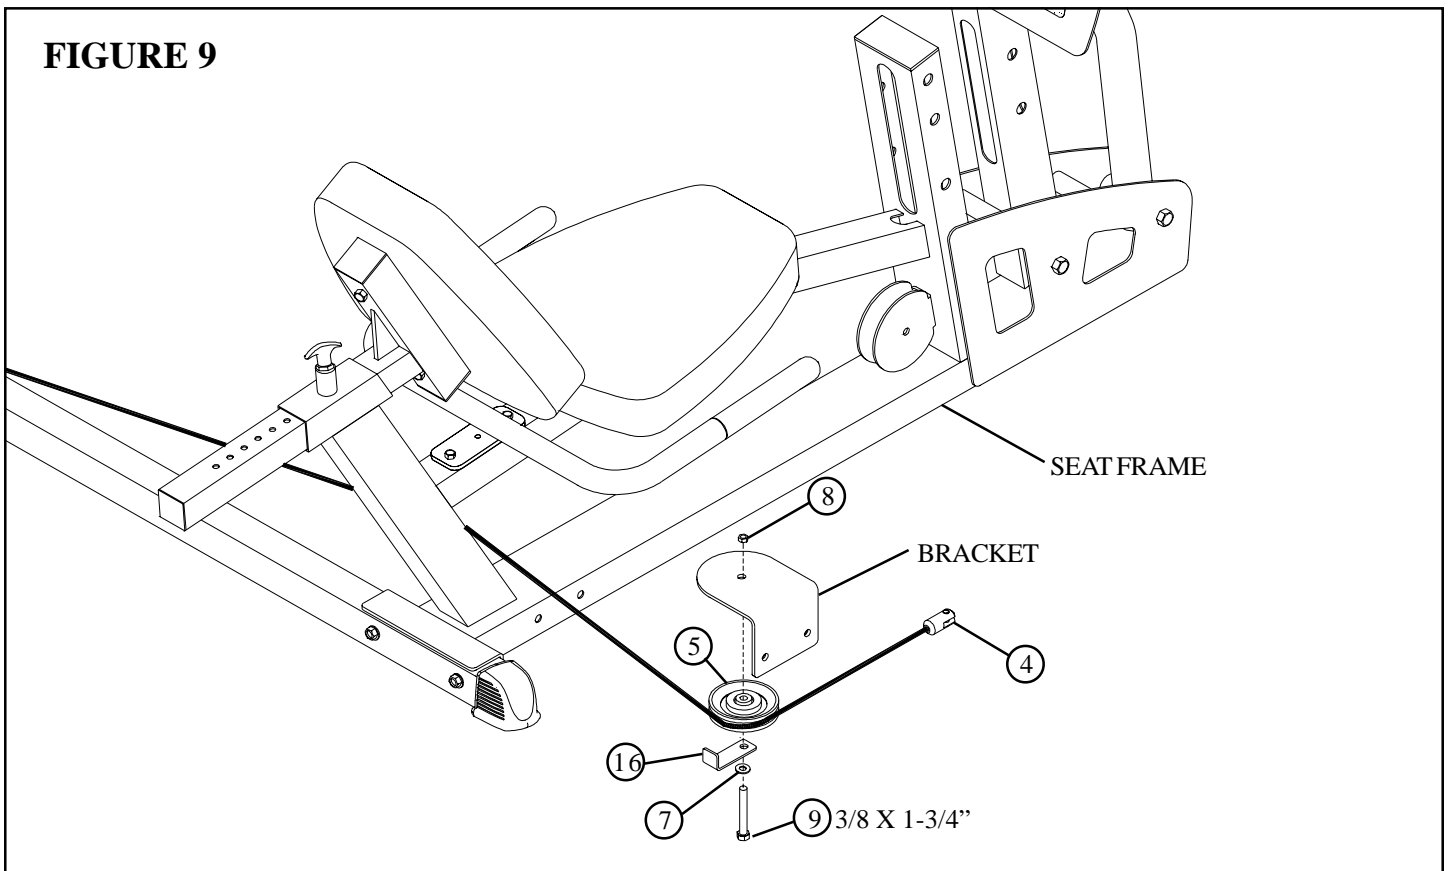

FIGURE 9
- Carefully route the LEG PRESS CABLE (4) around one 3-1/2" PULLEY (5) and **SECURELY** assemble the 3-1/2" PULLEY (5) to the BRACKET (from the 100 LEG PRESS) using one 3/8 X 1-3/4" BOLT (9), one 3/8" WASHER (7), one CABLE CLIP (16) and one 3/8" LOCK NUT (8) as shown in FIGURE 9. Make sure the CABLE is in the grooves of all the pulleys.